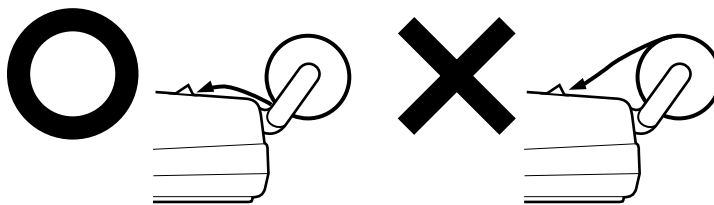

Fig. 3
3. Insert the paper roll from the left side of the paper holder and make sure the paper roll is set in the proper direction (with the paper feeding from the bottom). (Fig. 3)